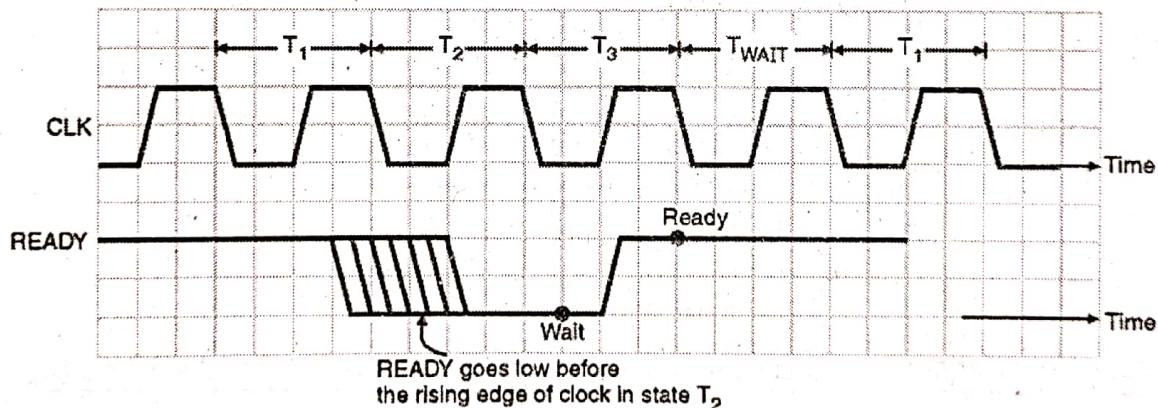

Fig. 2- Q. 6(a) : WAIT T-states
- **Concept of wait T-states :** It is used to synchronize slower devices. If a particular memory or I/O device is slower i.e. has a greater value of access time, then it needs to disable the READY pin of the microprocessor. This causes the microprocessor to insert wait states in between the machine cycle giving time for the device to place its data on the data bus. The name is given as wait states as the microprocessor waits for the device. The processor waits until the READY pin is enabled again. Fig. 2- Q. 6(a) shows wait states inserted in between of a machine cycle.